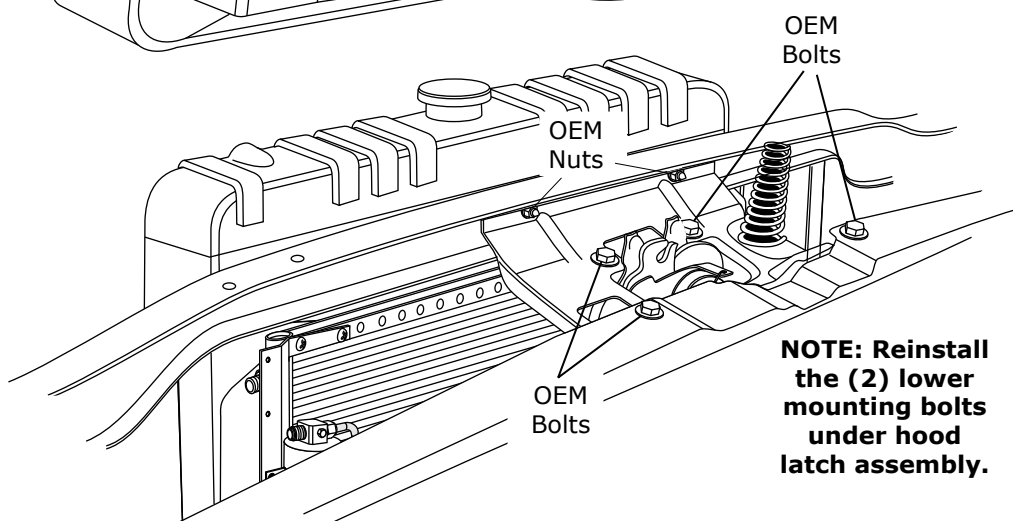

Figure 8
2. Using the OEM hardware reinstall the hood latch assembly as shown in Figure 8, below.